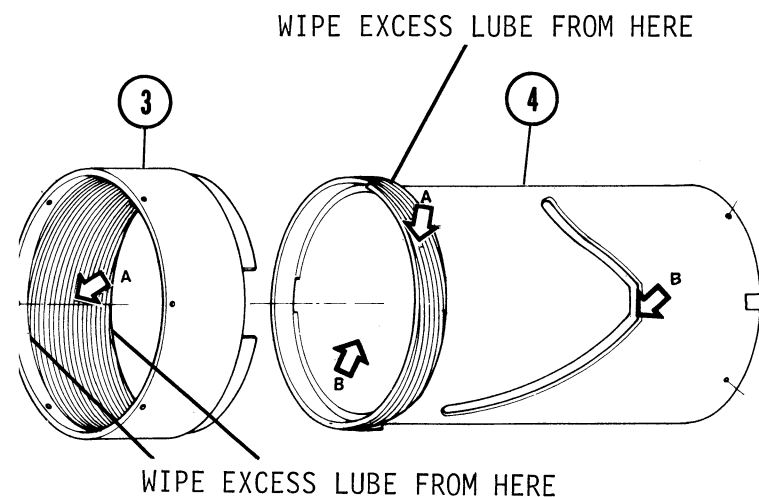

Fig. 14
- 2.2.2 Apply a thin film of lubricant "A" to helicoid threads of Lens Barrel (4) (Fig. 14)
- 2.2.3 Apply a thin film of lubricant "A" on helicoid threads of Outer Helicoid (3) (Fig. 14)
- 2.2.5 Wipe off excess lubricant from Outer Helicoid and Lens Barrel as shown in Fig. 14.
- 2.2.6 Apply a thin film of Lubricant "B" to the inside of Lens Barrel. (Fig. 14)